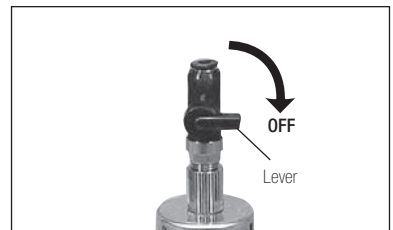

Fig. 12
- (1) Turn the ON/OFF valve lever to the OFF position. (Fig. 12)